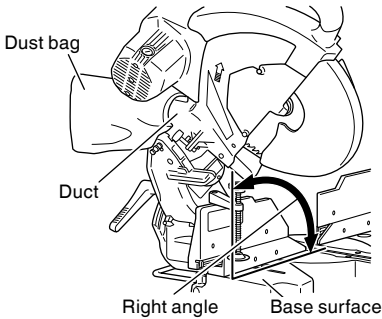

Fig. 50
- (2) During bevel and compound cutting, attach the dust bag at a right angle to the base surface as shown in Fig. 50.